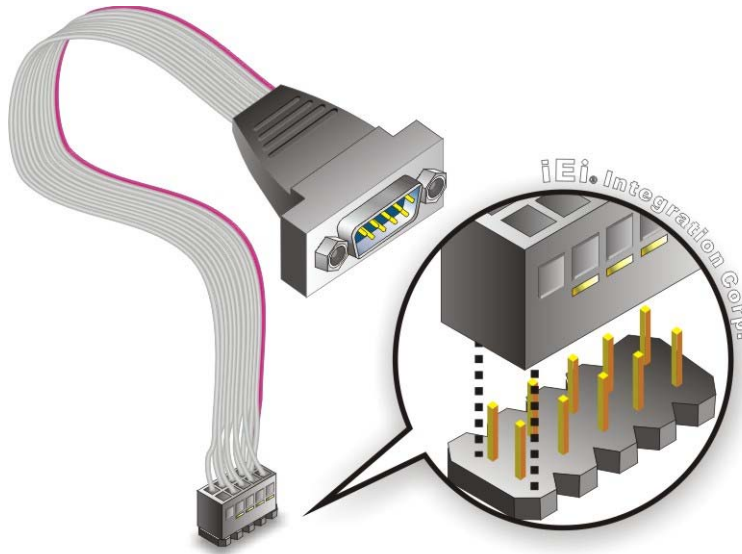

Figure 4-14: Single RS-232 Cable Installation
Step 2: **Insert the cable connector.** Insert the connector into the serial port pin header. See **Figure 4-14**. A key on the front of the cable connectors ensures the connector can only be installed in one direction.